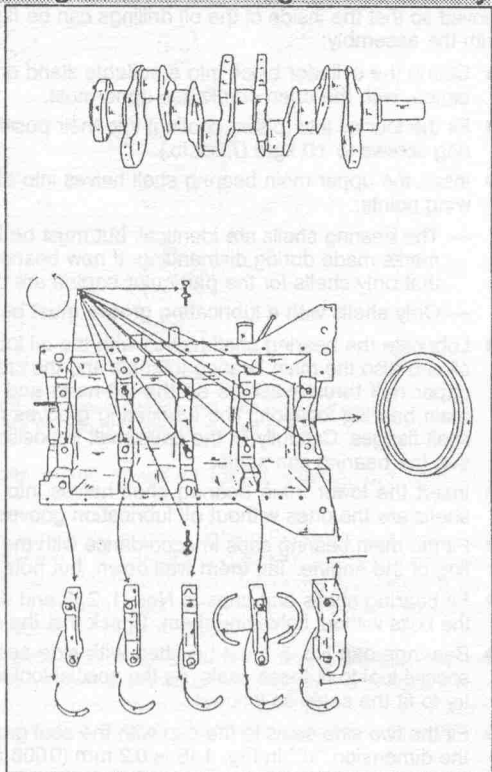

Fig. 1.14. — View of the crankshaft together with crankshaft bearings and thrust washers.
- Lift out the crankshaft and remove the upper bearing shells. Keep each shell together with the matching shell and the bearing cap for the particular bearing. Remove the crankshaft end float thrust washers from the side of the second bearing from the flywheel end. Also remove the flywheel side oil seal from the end of the crankshaft. Fig. 1.14 shows the parts of the crankshaft after removal. In the cylinder block remain the five bearing shells and two further thrust washers for the control of the crankshaft end float.